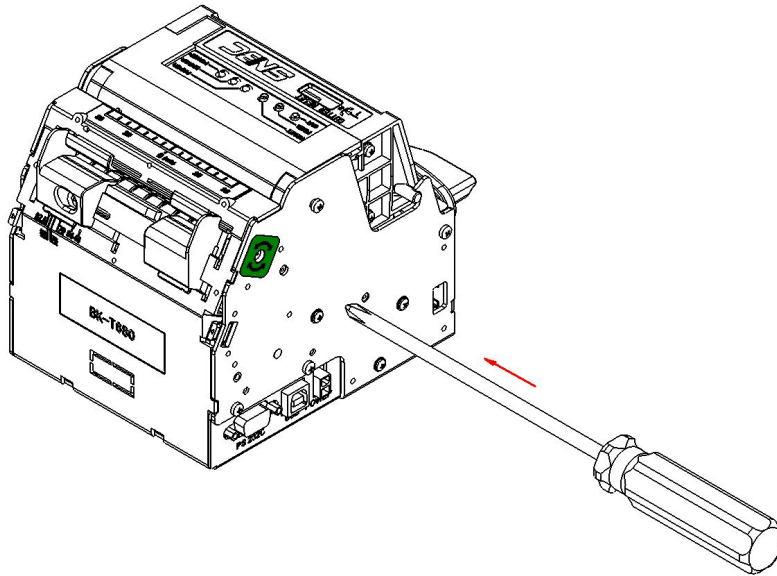

Figure 4.3-1 Adjusting mark sensor position
- 1) Make the cross screw driver deep in the printer in the direction shown in the figure 4.3-1, and then rotate it in the direction shown by the green mark to adjust the position of mark sensor;
To ensure the printer is well grounded, connect the grounding cable as showed in the figure 4.3-1.